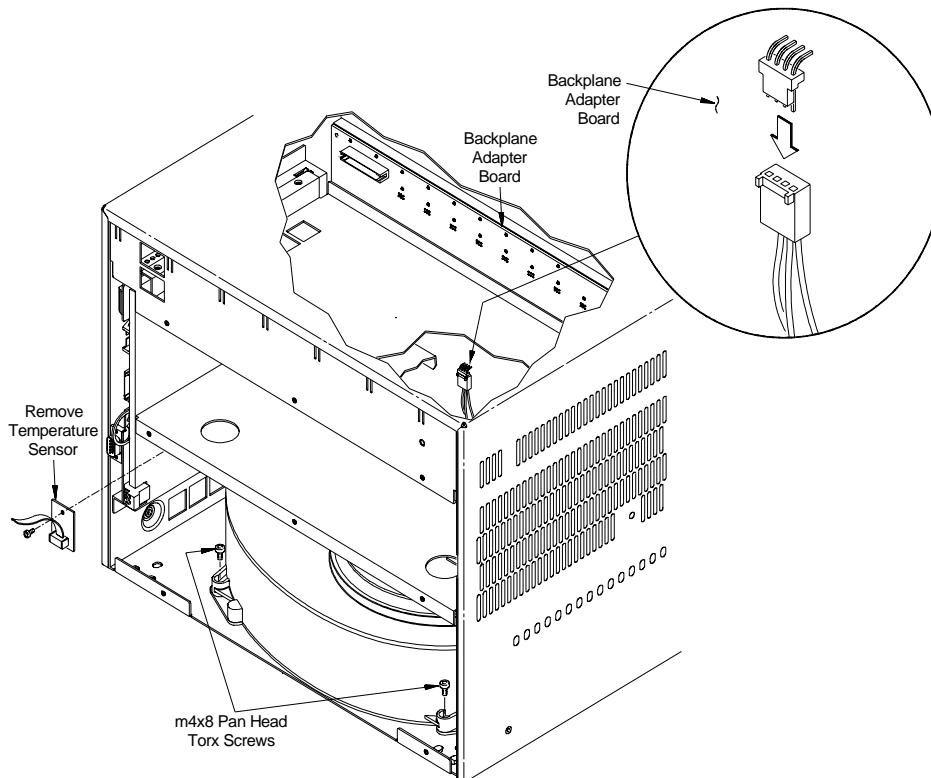

Figure 5-7. Removing / Installing the Impeller.
3. Disconnect the impeller wires from the backplane by gently pulling down on the wire housing (Figure 5-7). Note the position of the connector for re-installation.
5. Lift the impeller assembly off the screw locators and gently pull the impeller assembly out from the mainframe (Figure 5-7).